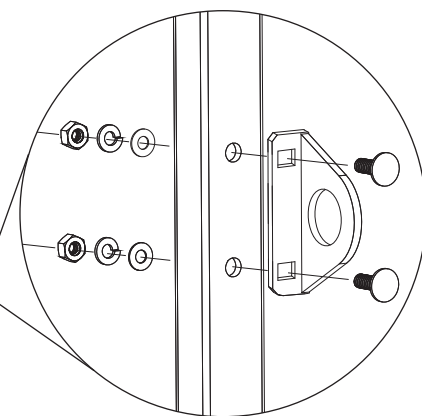

Figure 4, Side Bracket Installation
7. Install the side brackets, see Figure 4, and replace the door.